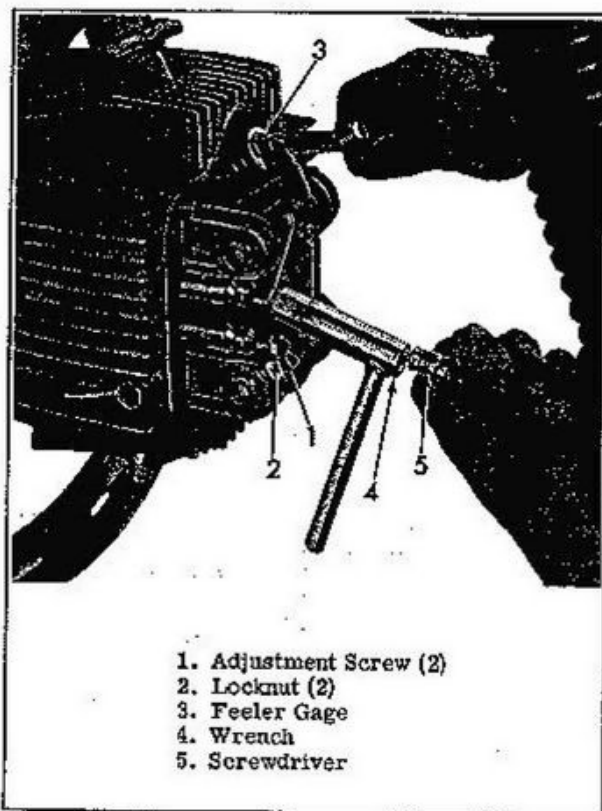

Figure 3B-16. Tappet Adjustment (1967-72 Shown)
Check the tappet clearance as shown in figure 3B-16 by inserting a feeler gauge (3) between the valve stem and the rocker arm pad. If the tappet clearance is correct, feeler will slide in with a slight drag. See Engine Specifications, Section 3A, for correct clearances.
To adjust tappet clearance, loosen tappet adjusting screw locknut (2, Figure 3B-16) with socket wrench (4) provided in tool kit. Turn tappet adjust screw (1) with a screwdriver (5) clockwise to reduce tappet clearance and counterclockwise to increase tappet clearance. Tighten locknuts securely and again check tappet clearance.